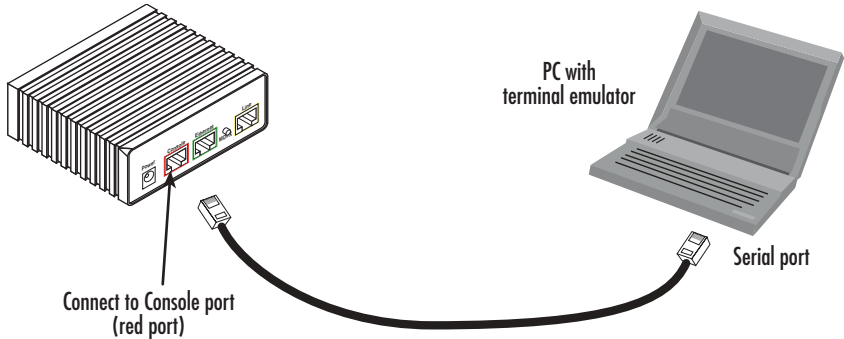

Figure 2. Connecting DiamondLink to the PC's serial port
1. Using the included combination RS232/Ethernet cable and DB9-RJ45 adapter, connect a PC's serial port to the on the DiamondLink's (red) *Console* port (see figure 2).